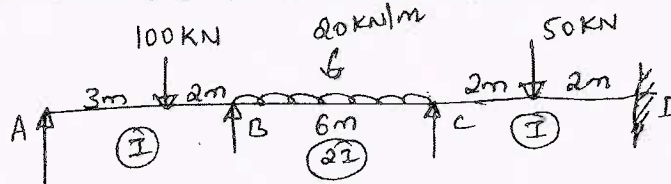

Fig.Q5
- 5 Analyze the beam shown in Fig.Q5 by Kani's method. Draw BMD.